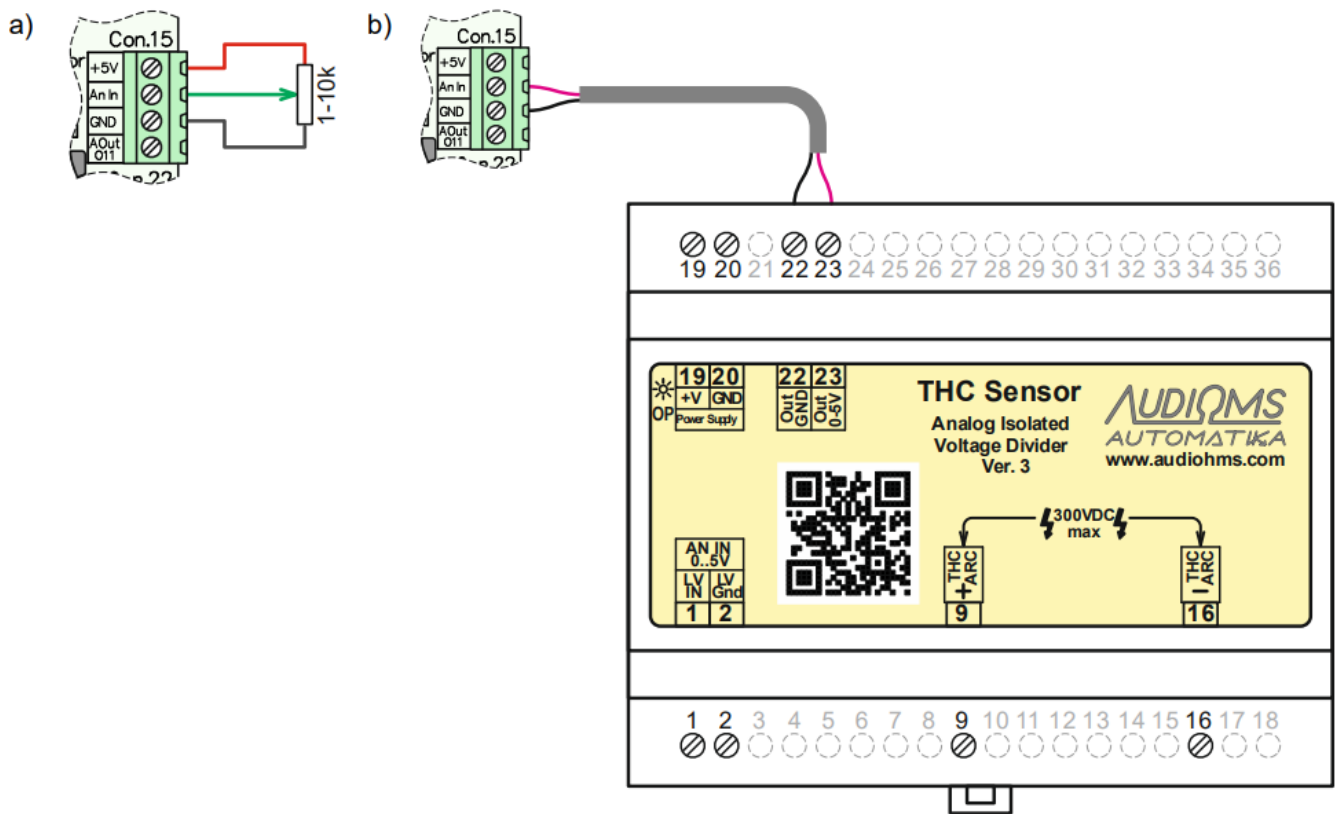

Figure 8.13 Connecting the source of analog signal to the analog input, a) using potentiometer and b) from THC sensor
- USB-MC-INT motion controller has one analog input (An in) with a range 0-5 V and it is available on the connector Con.15 (Figure 8.13).
- Figure 8.13.a shows the recommended method for connecting the potentiometer to the analog input An In, and Figure 8.13.b shows the recommended way for connecting the THC Sensor analog output to analog input An In. A detailed description of the Torch